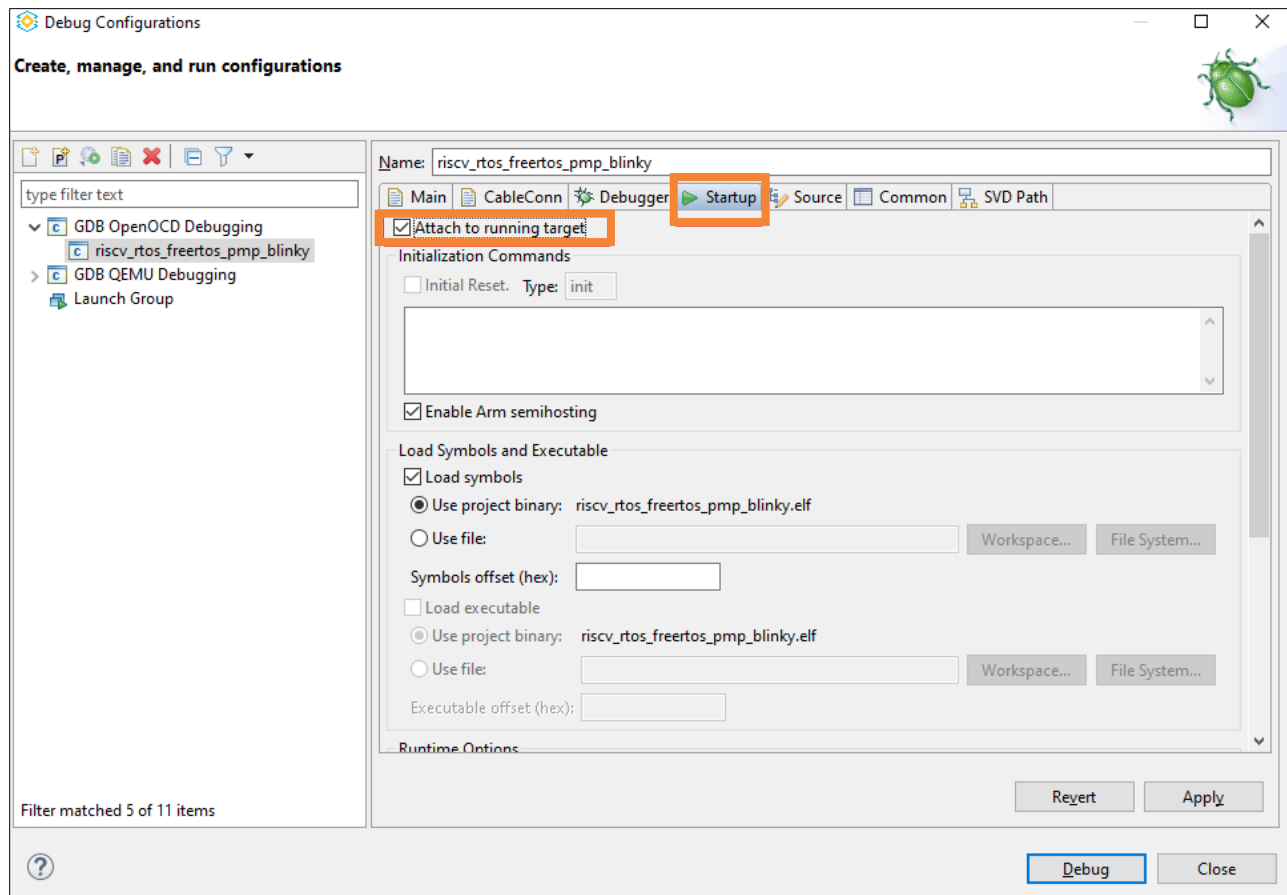

Figure E.2. Debug Configurations Dialog 5
2. Select **Run > Debug Configurations....** Select the corresponding item (Figure E.2).
3. Select **Startup** tab. Check the **Attach to running target** checkbox (Figure E.2). Click **Apply**. Click **Debug**.